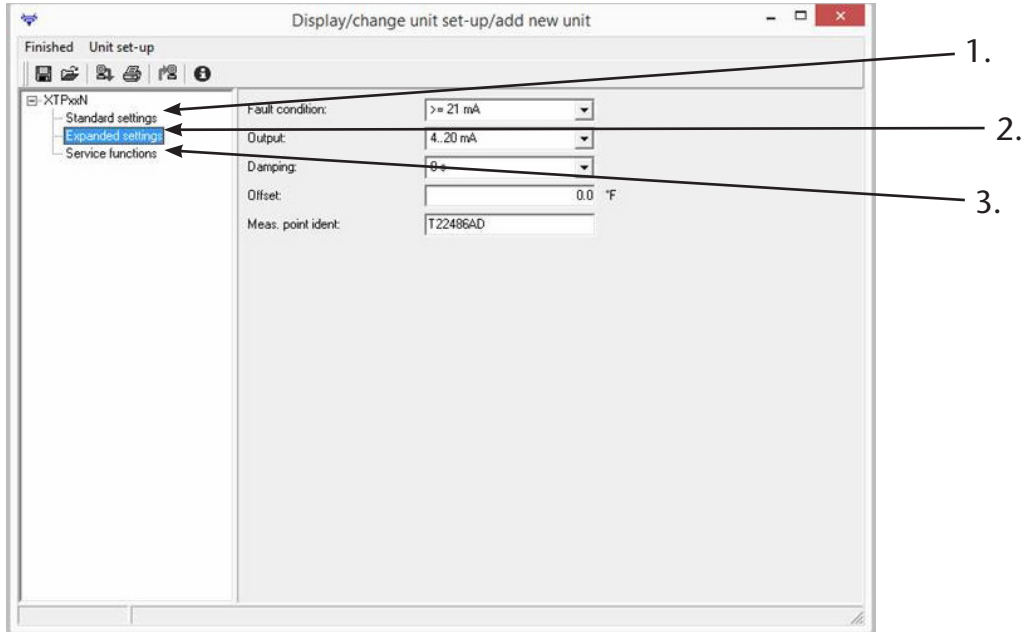

Figure 5
The available configuration parameters are divided into three file tree selections: Standard Settings (1) in Fig. 5, Expanded Settings (2), Service Functions(3). The availability of some parameters is dependent on the selection of other parameters (for example, the Cold Junction Compensation parameter is only available when a Thermocouple input type is previously selected).